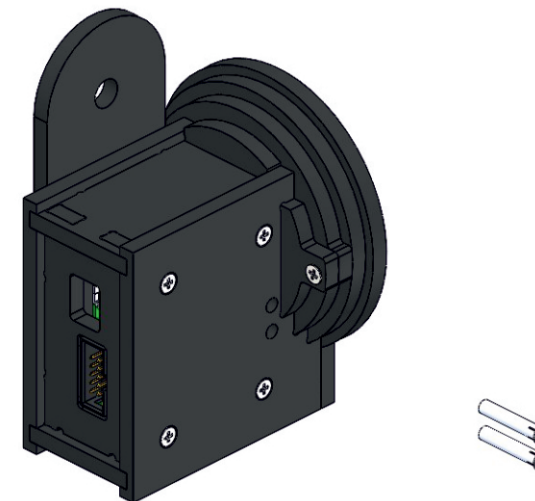

Fig. 72: Mounting beam guides
8) Join two beam guides with the side cover (Fig. 72)